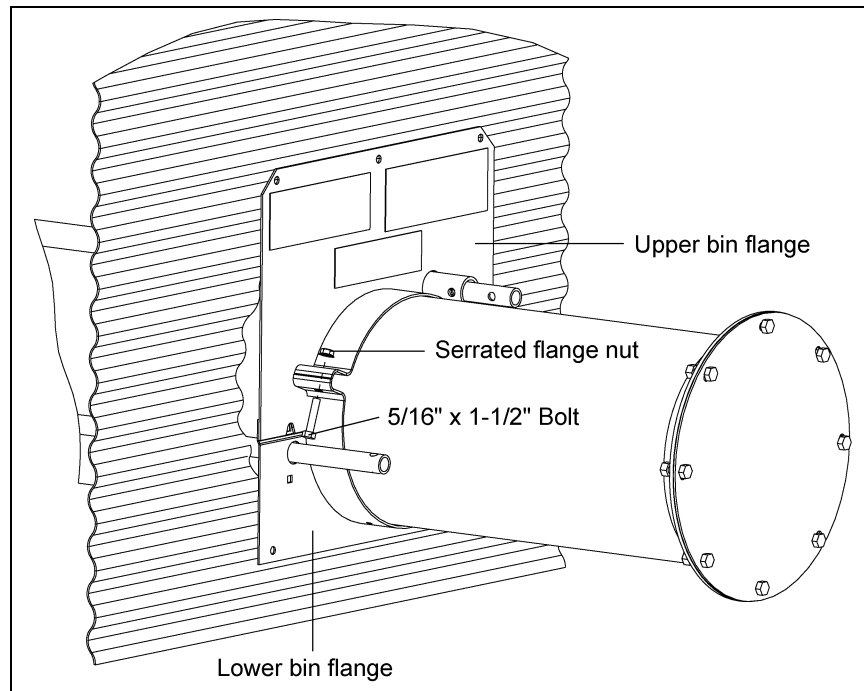

Figure 4I
1. Attach the upper and lower bin flanges loosely to the auger tube using two (2) 5/16" x 1-1/2" bolts and serrated flange nuts. (See Figure 4I.)